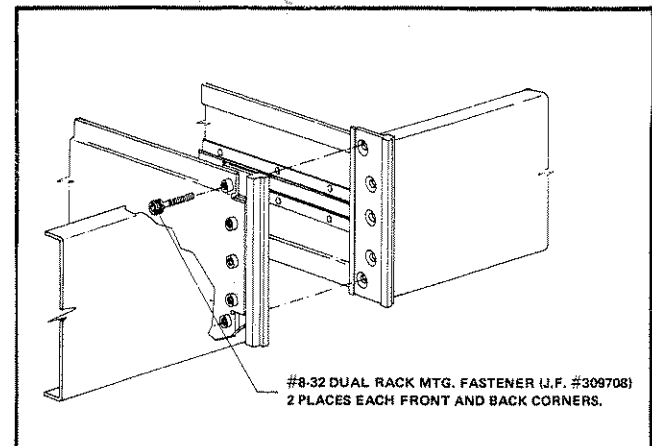

Figure 6-3. DUAL RACK MOUNTING
- f. Pull the front panel forward slightly and then thread the #8-32 fasteners into the P-nuts shown in Figure 6-3.
- i. Bolt the two instruments together as shown in Figure 6-3.